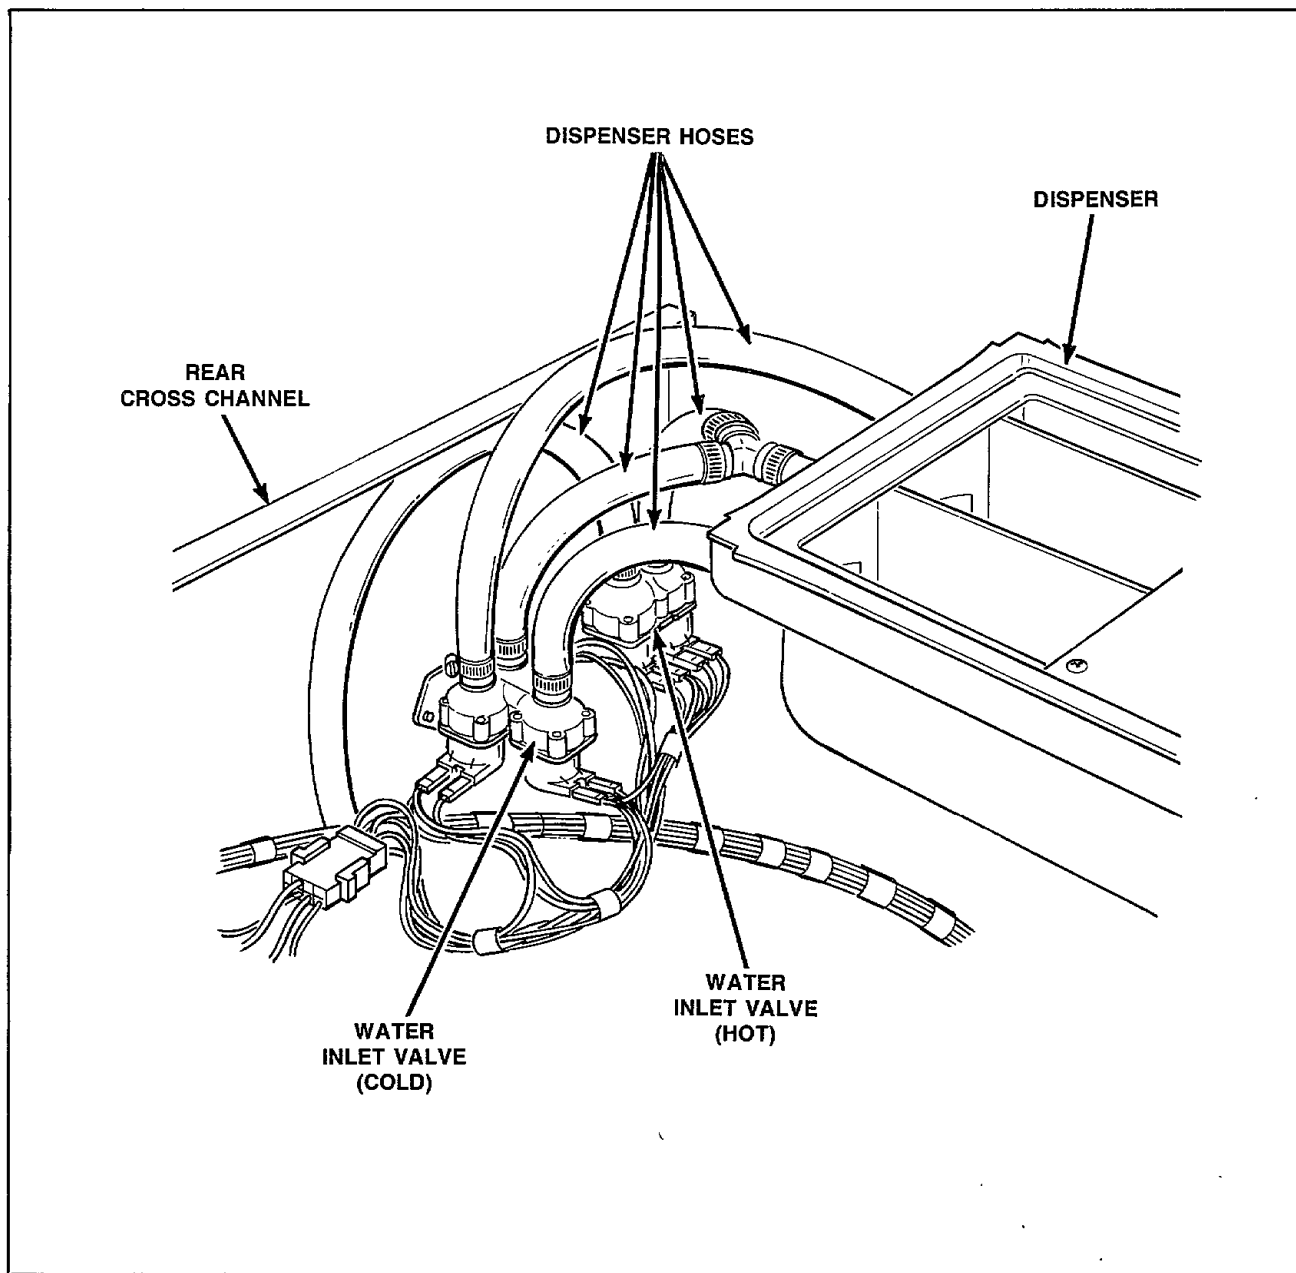

Figure 21
- f. Loosen hose clamps and remove the dispenser hoses at the inlet valve, *Figure 21*.